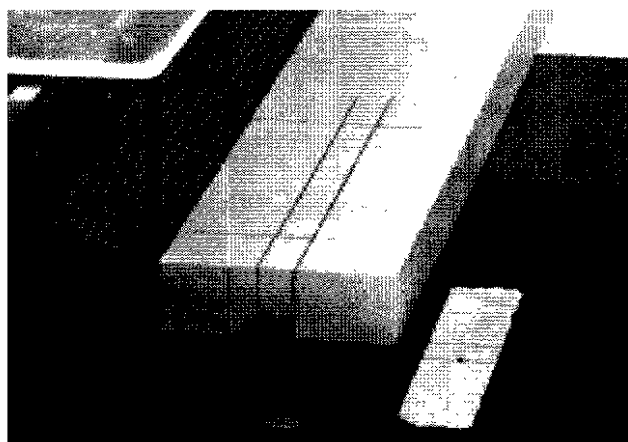

Figure 19 Adjusting the fence position
5. Lay your marked workpiece on the Router Table surface and move your MARK V's Pro Rip Fence (with the Pro Fence Router Table Fences attached) in and out to align your bit with the two slot position lines you transferred to the end of your stock. Lock the two Fence Locking Handles. Micro-adjustments can be made by moving the two Fence halves in and out with the two Threaded Handles (2), as covered in the **FENCE ADJUSTMENTS** section. See Figure 19.